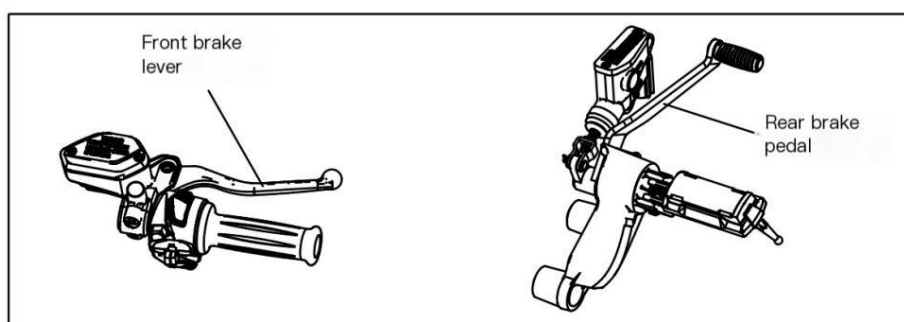

Figure 16
5.4.2 Climbing or Turning Driving (Figure 16)